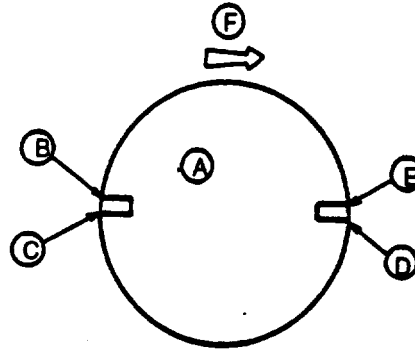

FIGURE 3-148. Staggered Piston Ring Gaps
- a. Ensure piston ring gaps are staggered as described in paragraph 3-49.1., and as shown on FIGURE 3-148.